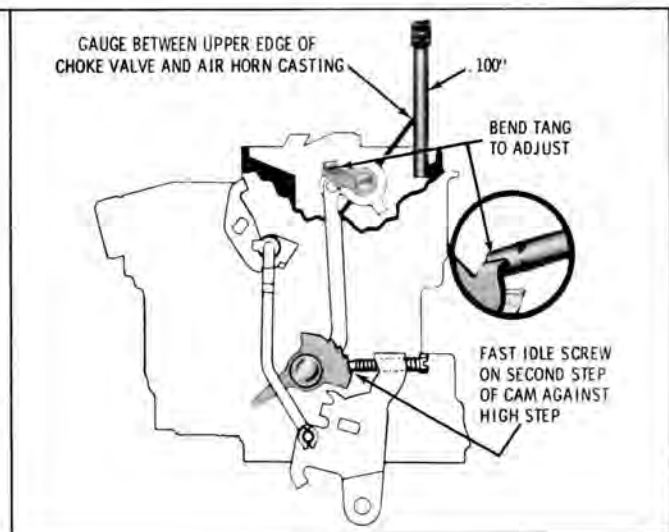

Fig. 14
2. With the fast idle screw on the second step and against the high step of the fast idle cam, hold the choke valve toward the closed position, Fig. 14.